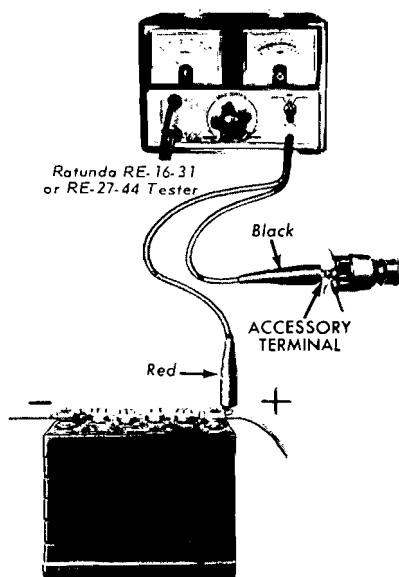

FIG. 6—Ignition Switch Test
1. Connect the voltmeter leads as shown in Fig. 6.